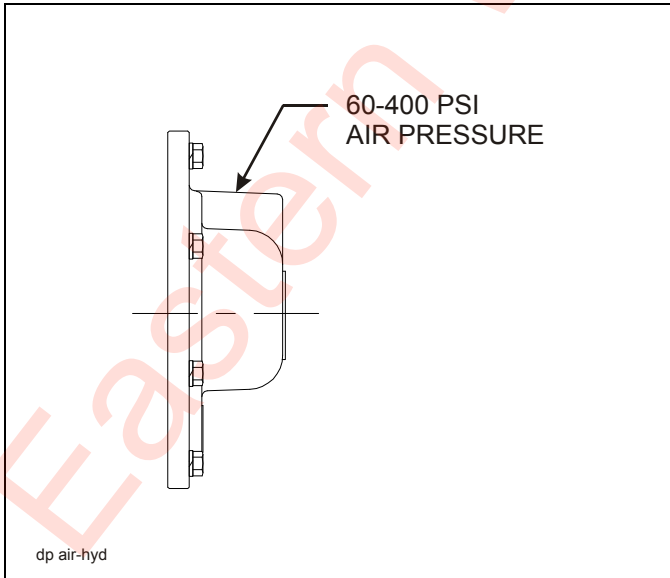

Figure 3-11: Air/Hydraulic Kickout
- 2. The air freespool clutch is operated by application of air pressure to the fitting supplied on the winch gearbox housing (See Figure 3-11.) The fitting is designed to accept 1/4" rigid plastic tubing.